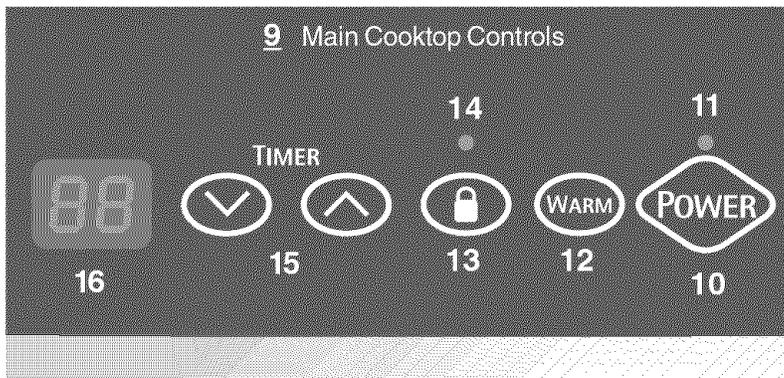

Fig 2.
9. Main Cooktop Controls (See Fig 2).